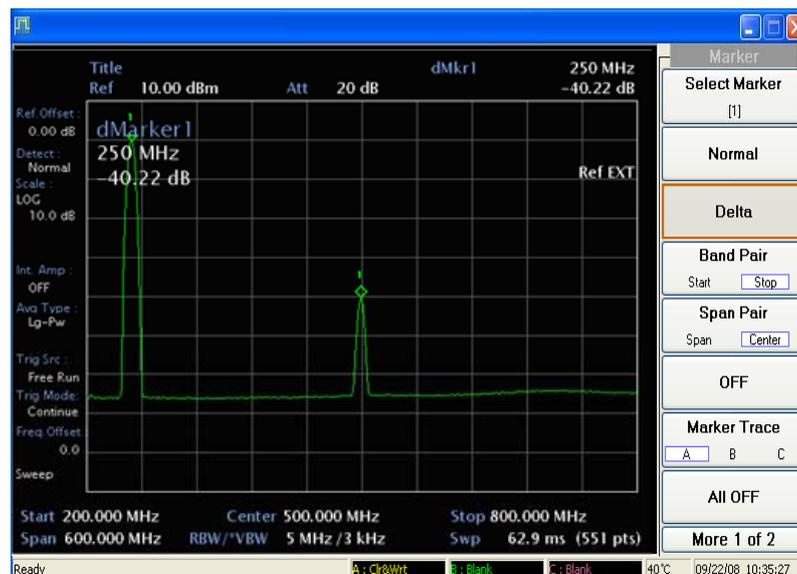

Fig. A-16 Harmonic distortion
- 3 To measure the second harmonic distortion, press [PEAK]: the marker then locates on the highest-level signal, the 200 MHz fundamental. Press [MARKER], [*Delta*] 250 MHz, then the marker locates in the second harmonic signal. The signal shown in Fig. A-16 produces harmonic distortion products in the analyzer input mixer.